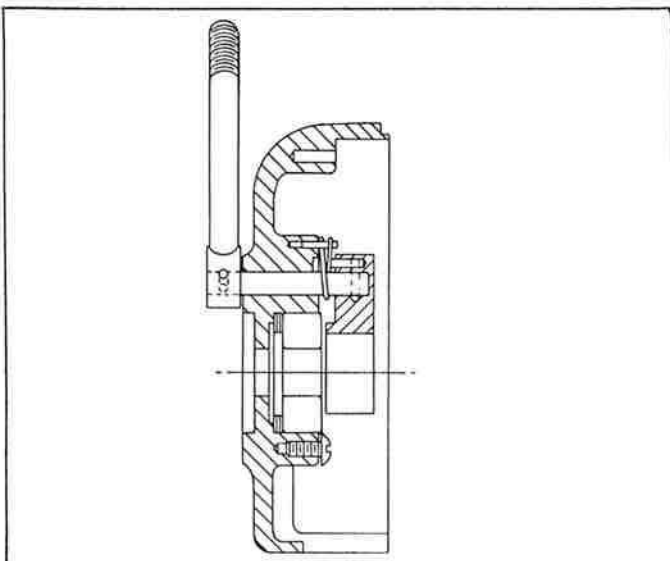

Fig. 36 C
5. Assemble the brake shoe assembly to the inside of the motor end bell with the spring spanning the roll pin located on the inside of the end bell, as shown in Fig. 36-C.